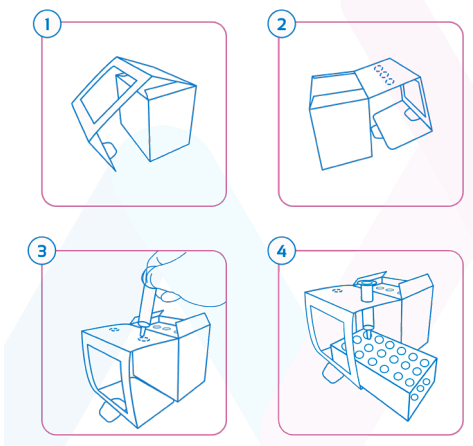

Figure 1. Graphic instructions to use column box as well as rack, avoiding to get a specific column rack in the laboratory and facilitating the protocol.
- Place the column in a rack and level it, make sure the column is vertical. Column box can be used as a rack, just following next scheme (Fig.1).